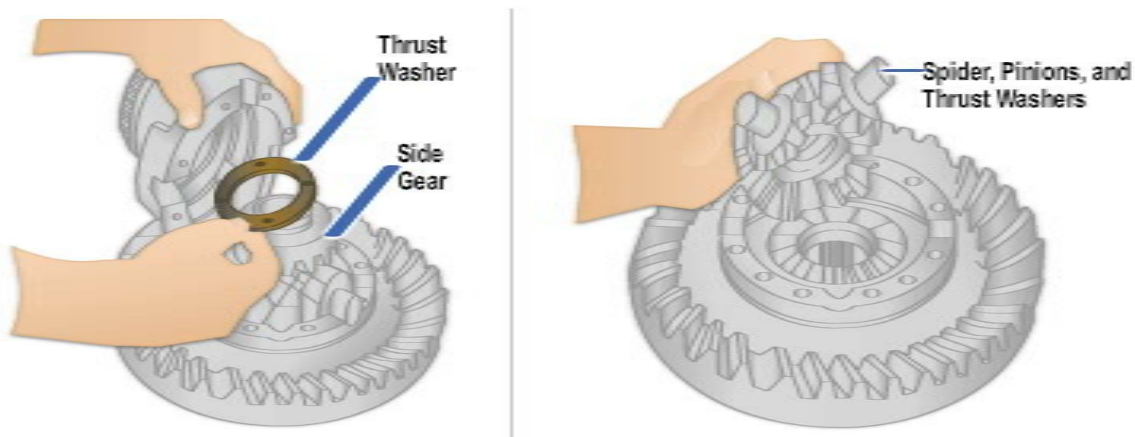

Figure 8-72 - Disassemble the differential and crown gear.
4. Remove the differential spider (cross), four pinion gears, two side gears, and six thrust washers from inside the case halves (*Figure 8-72*).